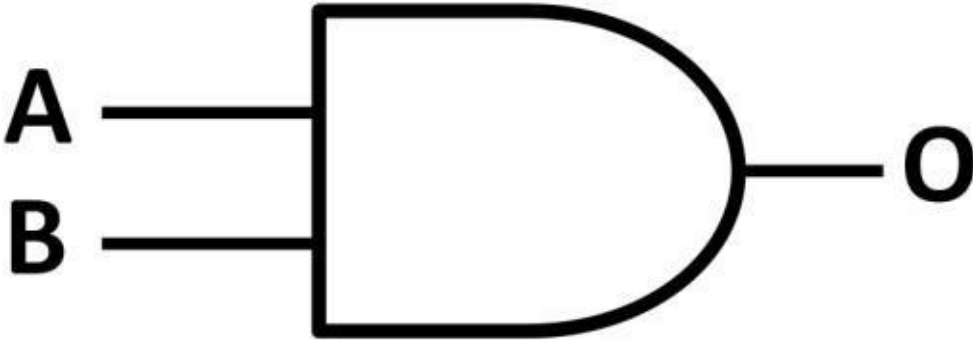

Figure 5.16: AND gate
An AND gate is an important gate worth discussing. The AND symbol in figure 5.16 contains two inputs (A, B) and a single-ended output (O).